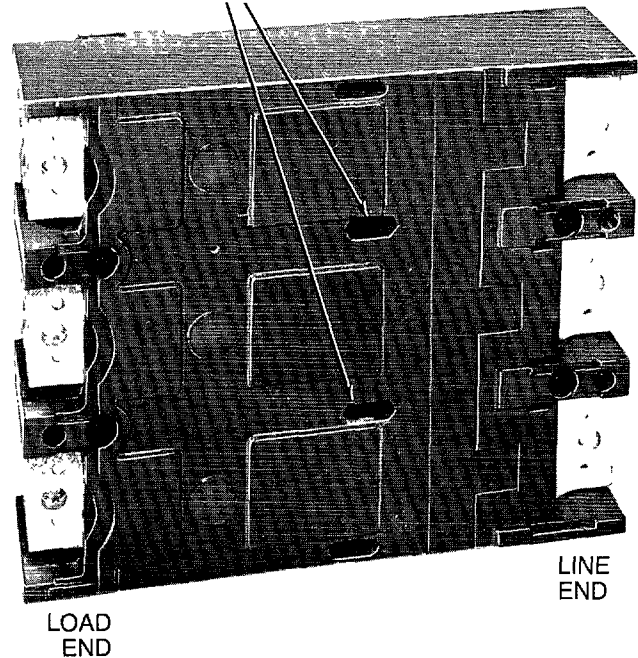

Figure 3 Spotting Holes Location
2. Be sure the circuit breaker is de-energized or removed from the circuit. With 0.125 diameter drill, drill through hole on the pole where accessory is to be installed. This hole should be drilled from the front or back of the breaker; use one of the spotting holes between pole units which is located 5³/₈" from the load end of the breaker (See Figure 3.)